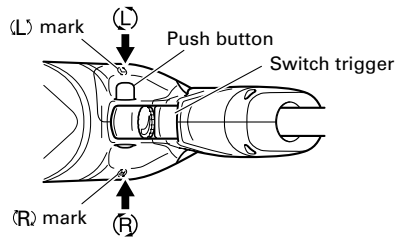

Fig. 5
6. Check the rotational direction (Fig. 5)